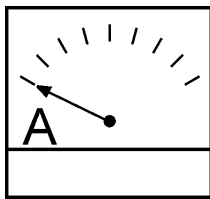

Figure 44. Ammeter (No Load)
8. The ammeter (Figure 44) will indicate **zero amps** with no load applied. When a load is applied, the ammeter will indicate the amount of current that the load is drawing from the generator.